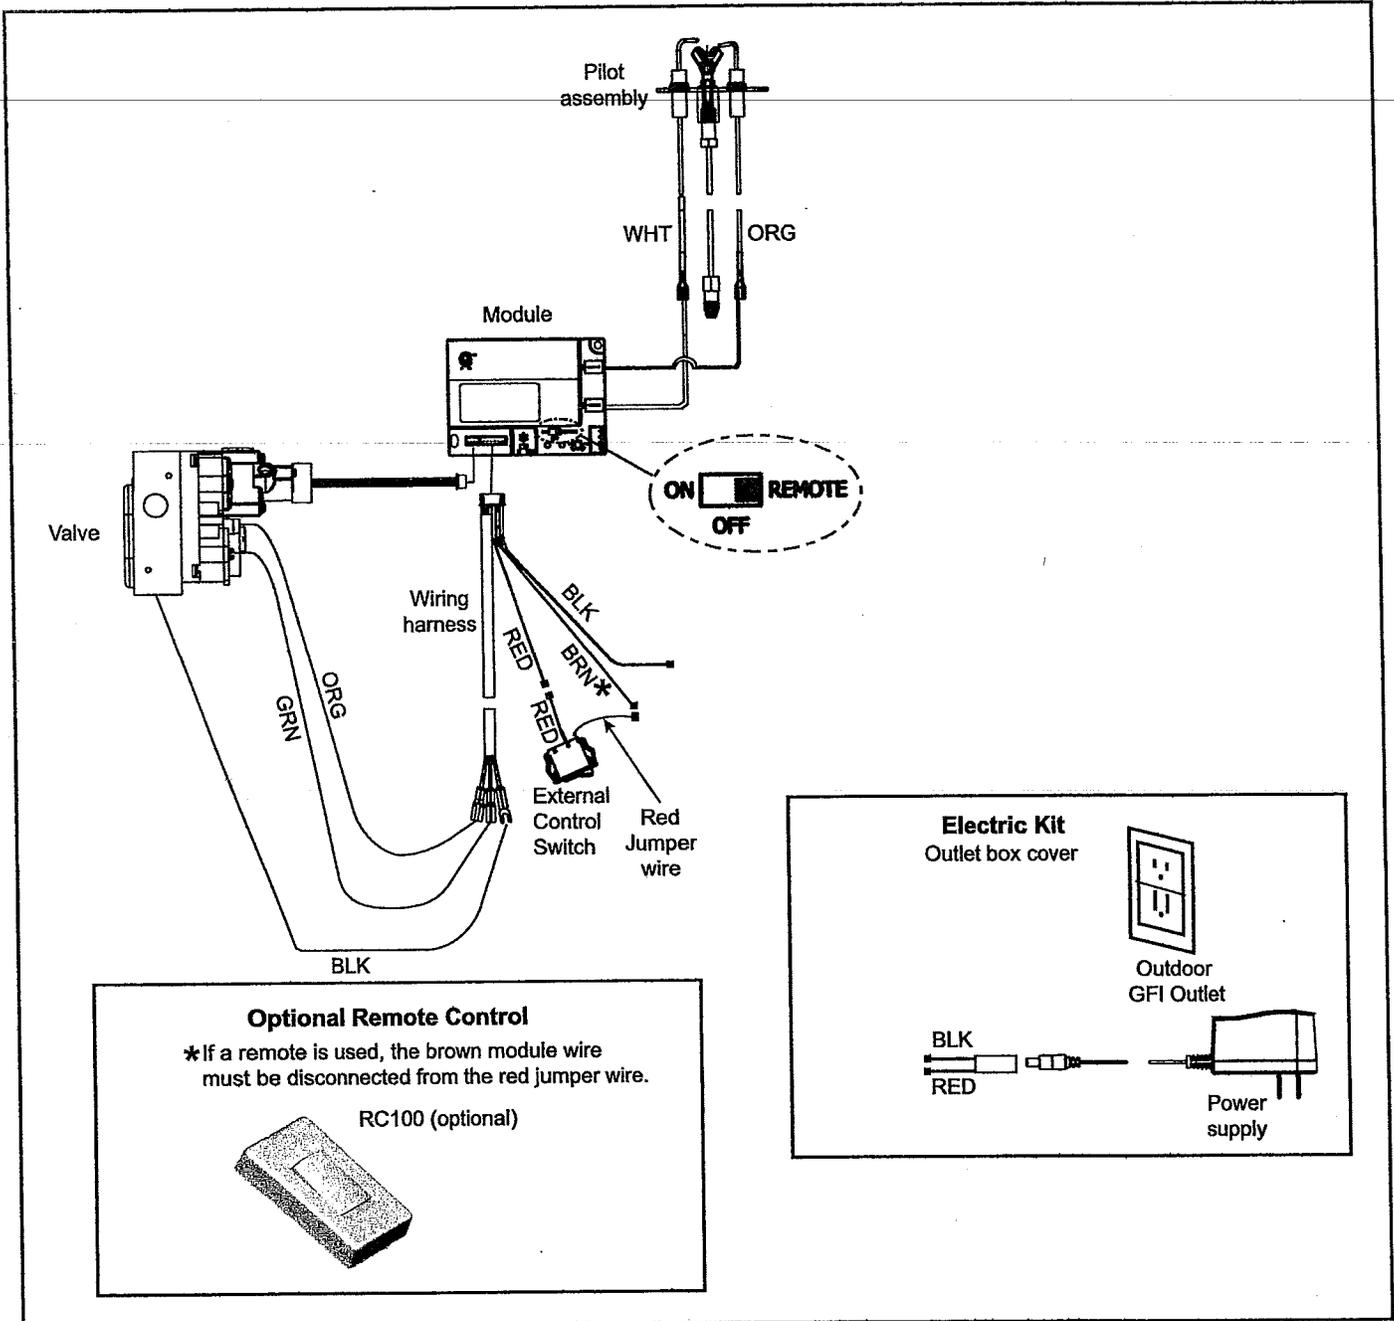

Figure 5.10 Intermittent Pilot Ignition (IPI) Wiring Diagram with Electric Kit and Optional Remote Control
- Connect the red and black wires of the wiring assembly included with the electric kit to the red and black wires to the switch and module. Plug the power supply wire into the wire assembly and then into the outlet. See Figure 5.10.
- If installing optional remote control, disconnect the brown module wire from the red jumper wire. See Figure 5.10. Follow the instructions included with the remote control.